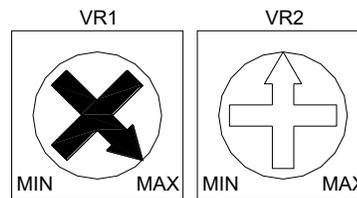

Figure 11
- Motor speed can be varied by turning the integral potentiometer VR1 (Figure 11)